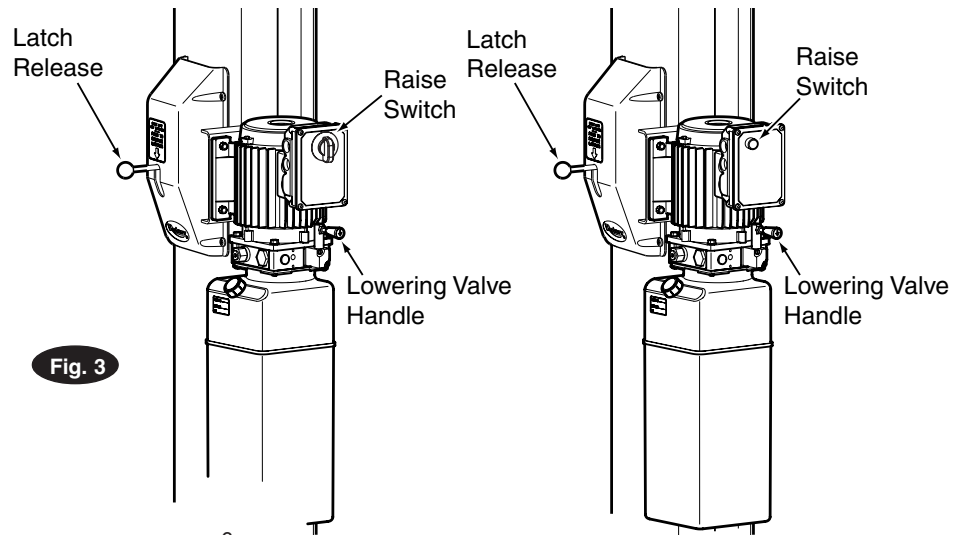

Fig. 3
- A. For all lifts. Push RAISE switch on power unit, Fig. 3.
- D. Push LOWERING valve handle to lower, Fig. 3.